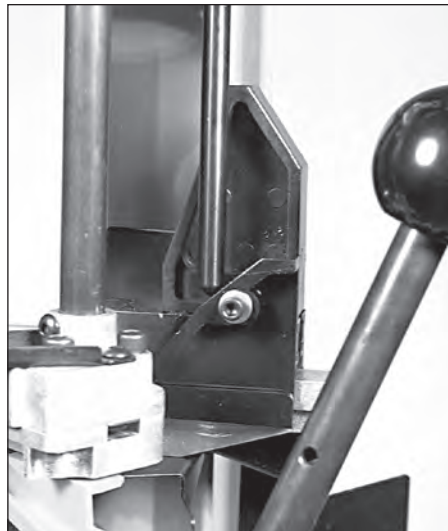

FIG 183
Step 14) Case insert slide cam – turn around **FIG 183**: